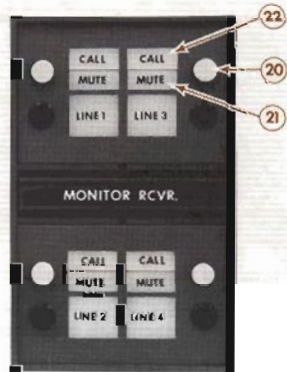

Figure 6
Receiver-Select Modules (Figure 6) are offered for monitoring either two or four receivers. Each line has individually adjustable input levels. The push-buttons ⑳ are used to selectively mute individual receivers. The lower half ㉑ of each split screen illuminates when its associated receiver is muted. The top half ㉒ of the split screen flashes when audio is present on its incoming line.